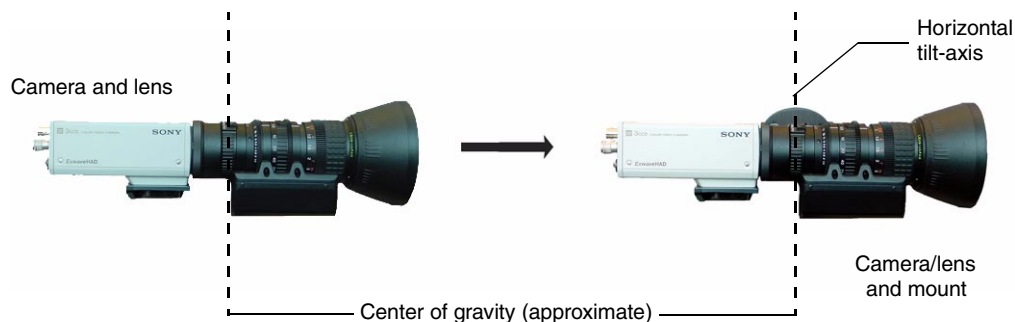

FIG. 8 Aligning the center of gravity
6. Place the camera/mount in the appropriate location along the cradle support bracket so the camera's center of gravity aligns with the horizontal tilt-axis, as shown in FIG. 8.